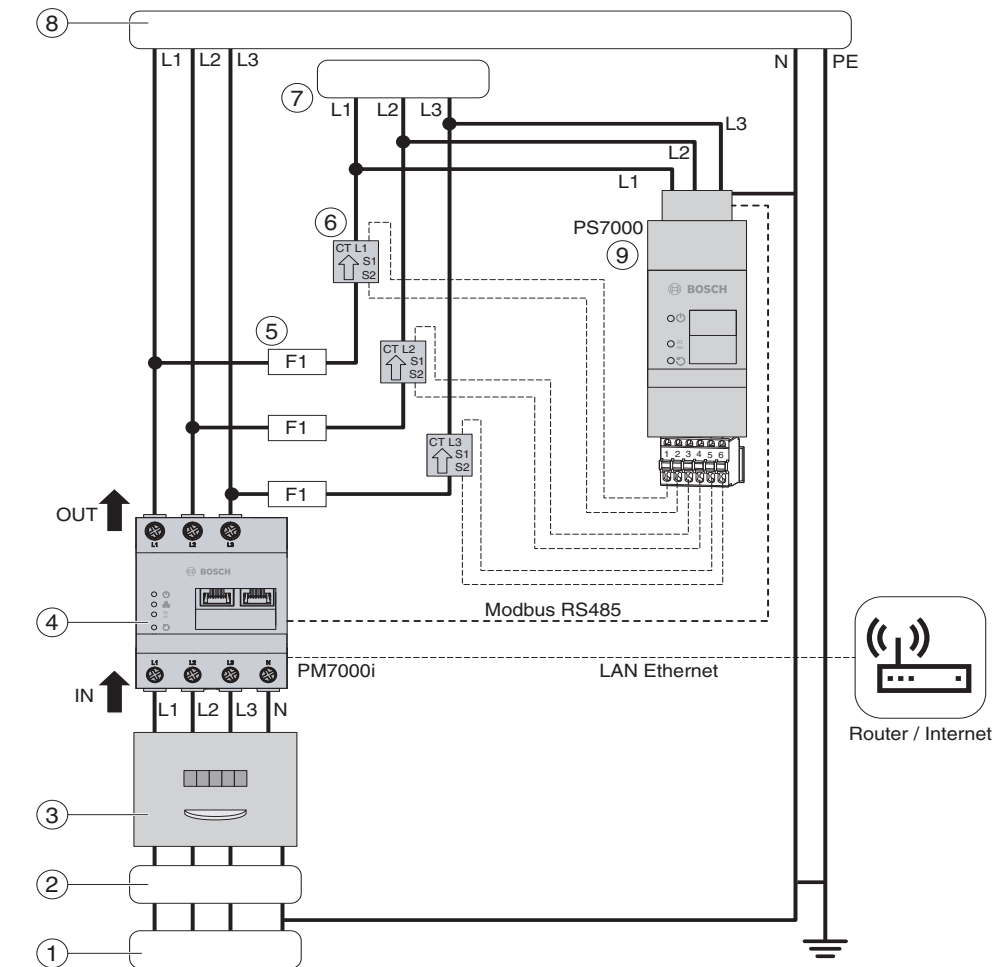

Fig. 2 Wiring diagram
- With a three-phase mains power supply, connect powered conductor L1, L2 and L3 as well as the neutral conductor to the PM7000i according to the connection diagram (→ Figure 2).